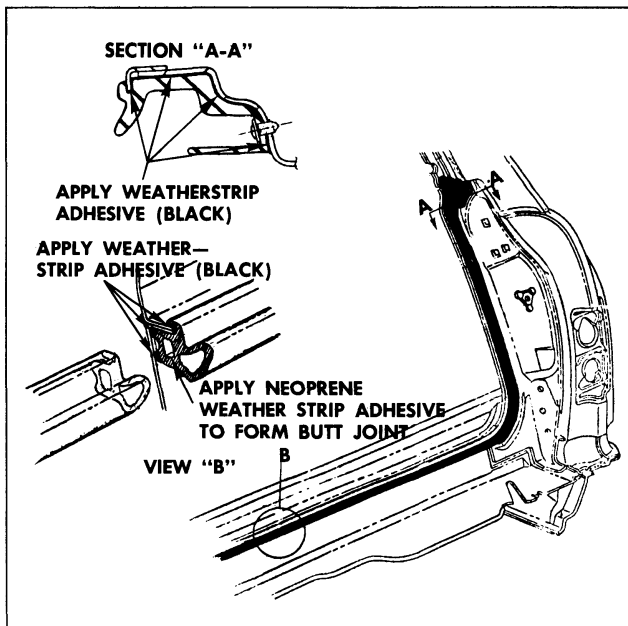

Fig. 14-25 Weatherstrip Application
1. Open tail gate. Remove screw securing upper end of weatherstrip to body (section A-A, Fig. 14-25).
2. Apply (brush) a continuous coat of weatherstrip adhesive (black) to attaching surfaces of weatherstrip and corresponding cementing surfaces on back body opening (see sections A-A, B-B, C-C in Fig. 14-25).
3. Locate the upper end of weatherstrip to body opening making sure formed section of weatherstrip and attaching screw hole are properly aligned (see section A-A, Fig. 14-25). Insert remainder of weatherstrip into gutter along body pillar and on pinch-weld flange along bottom of opening.